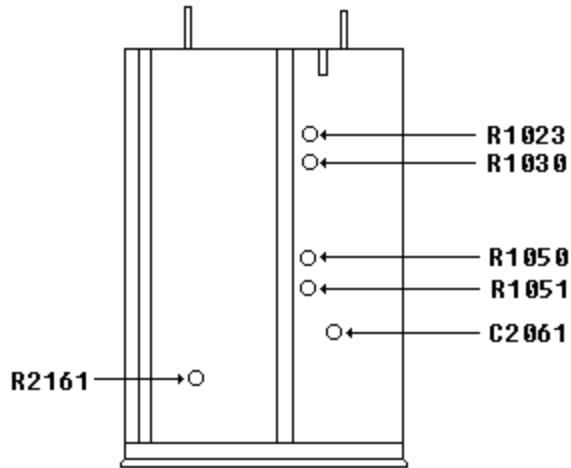
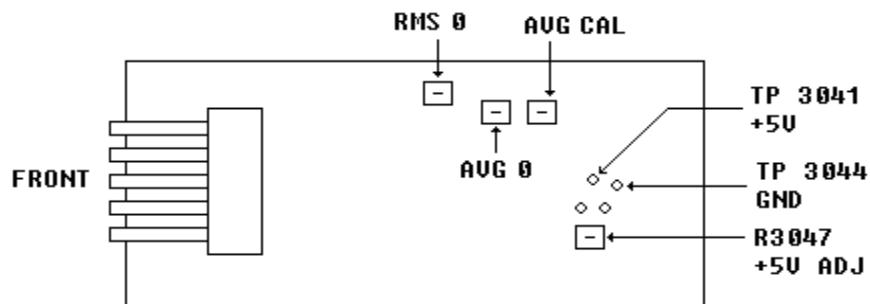
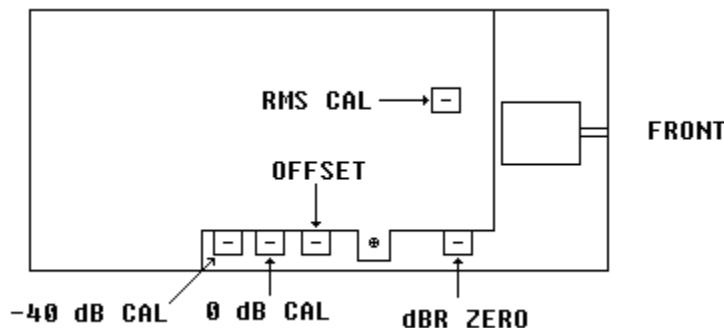

Figure 1. Test instrument - top view.
Figure 2. Test instrument - right view.
Figure 3. Test instrument - left view.
- (1) Disconnect equipment from TI INPUT.
- (2) Position controls as listed in (a) through (d) below:
- (3) Short TI INPUT - and +.
- (4) Connect oscilloscope Vertical 1 input to TI FUNCTION OUTPUT.
- (5) Position oscilloscope controls for 200 mV/div, dc coupled and 200 ms/div sweep.
- (6) Press distortion range 2% and 0.2% pushbuttons in turn and note oscilloscope display jump amplitude. If jump amplitude is 100 mV or greater, adjust R1050 (fig. 1) for minimum jump amplitude, less than 100 mV, when switching between 2% and 0.2% (R).
- (7) Disconnect short and oscilloscope from TI.
- (8) Connect calibrator **OUTPUT HI** and **LO** to TI **INPUT +** and **-**.
- (9) Position controls as listed in (a) through (d) below:
- (10) Set calibrator for a 15 mV, 1 kHz output.
- (11) Adjust RMS 0 (fig. 2) until TI indicates 0.015 V (R).
(12) Press **FUNCTION dBm 600Ω** pushbutton and record TI indication.
(13) Release **RESPONSE RMS/AVG** pushbutton to **AVG** and adjust AVG 0 (fig. 2) until TI indicates same value recorded in (12) above (R).
(14) Press **FUNCTION VOLTS** pushbutton.
(15) Press **RESPONSE RMS/AVG** pushbutton to **RMS**.
(16) Set calibrator for a 1.5 V, 1 kHz output.
(17) Adjust RMS CAL (fig. 3) until TI indicates  $1.500 \text{ V} \pm 0.001 \text{ V}$  (R).
(18) Release **RESPONSE RMS/AVG** pushbutton to **AVG**.
(19) Adjust AVG CAL (fig. 2) until TI indicates  $1.500 \text{ V} \pm 0.001 \text{ V}$  (R).
(20) Press **RESPONSE RMS/AVG** pushbutton to **RMS**.
(21) Set calibrator for a 1 V, 60 kHz output.
(22) Record TI indication.
(23) Set **INPUT RANGE** switch to **20 V**.
(24) Set calibrator amplitude to 10.00 V.
(25) Adjust C2061 (fig. 1) for a TI indication 10 times greater than that recorded in (22) above (R).
- (1) Set **INPUT RANGE** switch to **2V**.
- (2) Set calibrator for a 774.6 mV, 1 kHz output.
- (3) Adjust 0 dB CAL (fig. 3) until TI indicates 00.0 dBm (R).
- (4) Set calibrator amplitude to 77.46 mV.
- (5) Adjust R2161 (fig. 1) until TI indicates -20.0 dBm (R).